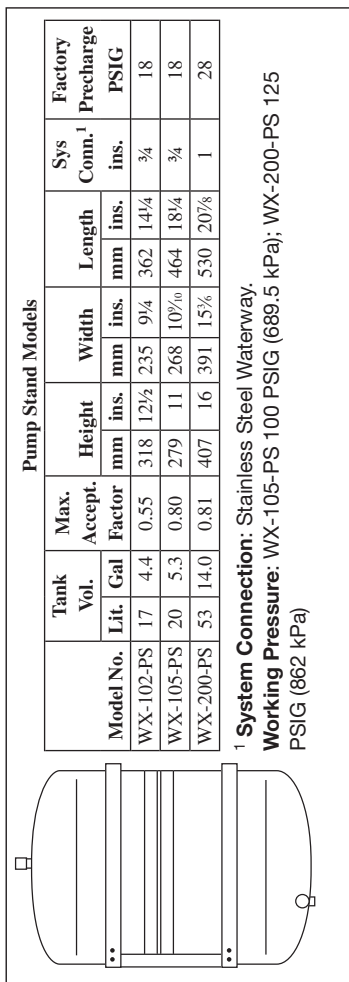

Figure 4.4 Pump Stand Models
- Pump stand models (see Figure 4.4)